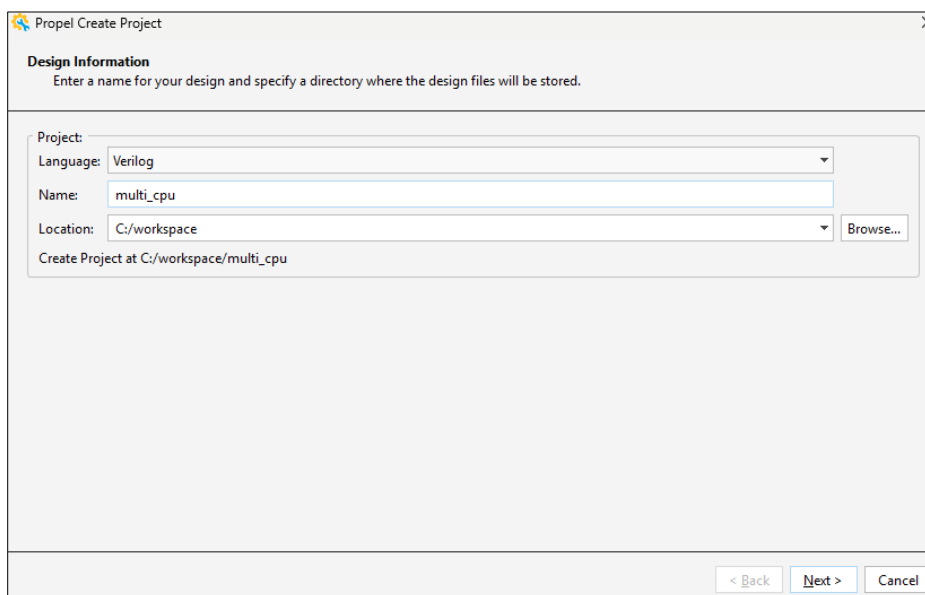

Figure 4.3. Create Project – Design Information
- c. Click **Next** to proceed (Figure 4.3).